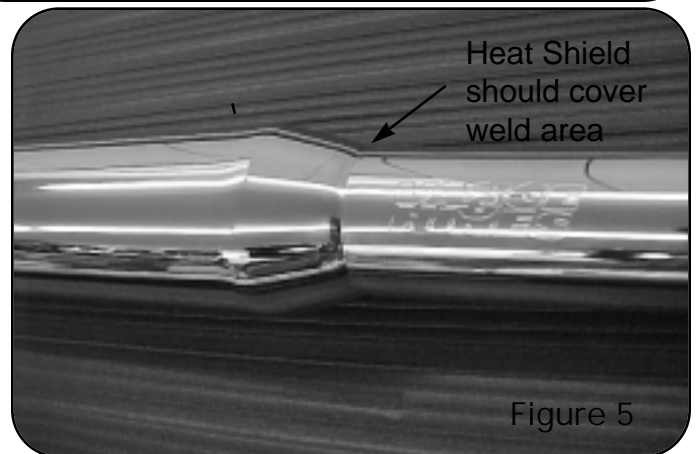

Figure 5
8. Adjust heat shields so they meet front of muffler taper. Refer to figure 5. Tighten all hose clamps securing heat